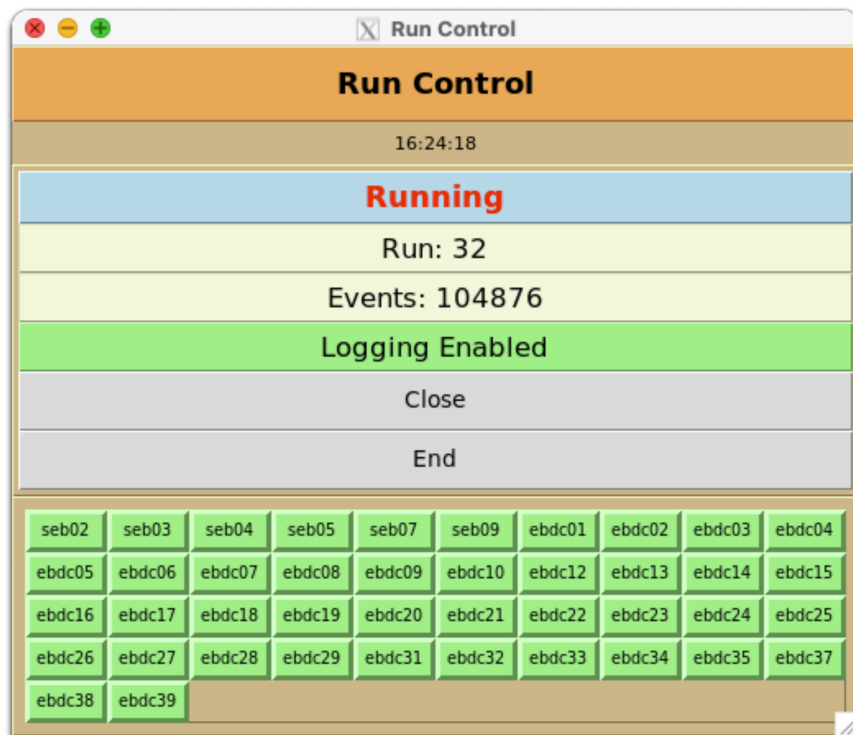

Figure 3: A screenshot of the RunControl GUI in action.
- like the server itself, the RunControl GUI has no ability to dynamically adjust the button matrix at the bottom (see Fig. 3 when a new instance of the rc_server restarts with a different list. We will make this dynamic as much as possible.